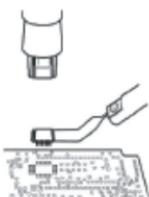

Fig. 5
- When the soldering tin is melted, remove the SMD components by lifting the pick up puller (Fig. 5)